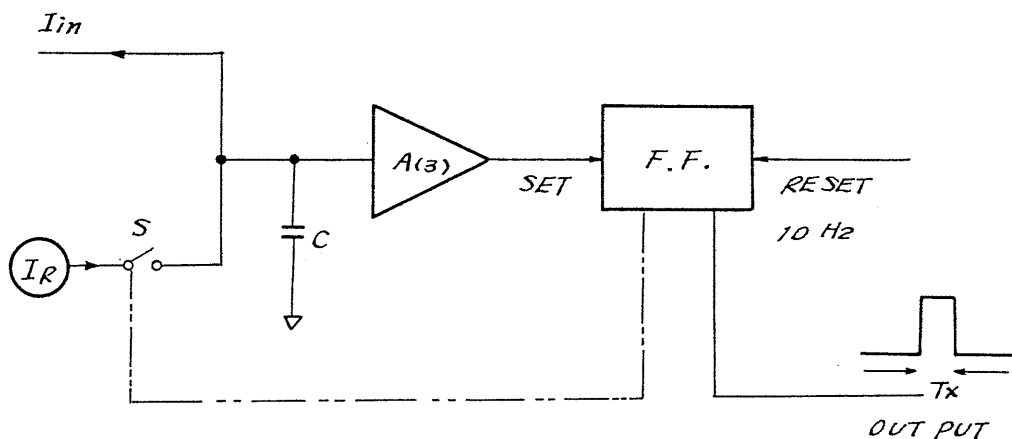

Fig. 4-4
The pulse width converter uses reference power source I_R , level detector A (3) and phase compensation type flip-flop FF as shown in Fig. 4-4.